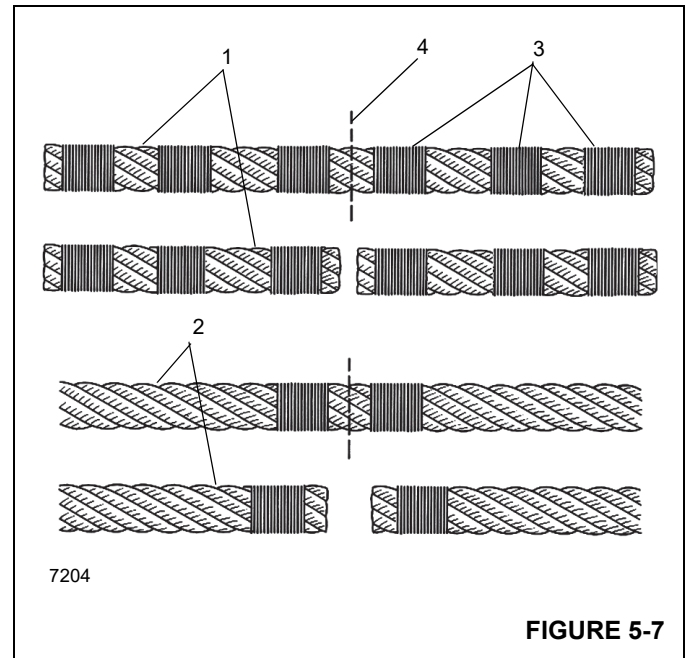

FIGURE 5-7
**NOTE:** Non-preformed wire rope (1) (Figure 5-7) should have three seizings (3) located on each side of the cut (4) as compared to preformed wire rope (2).